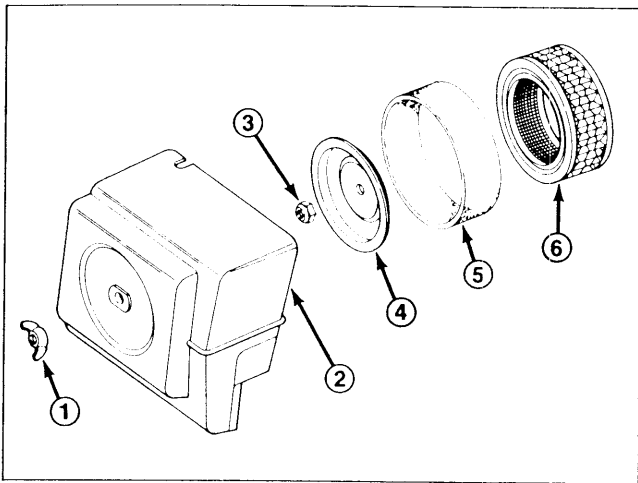

Figure 23
1. Remove wing nut and cover (Fig. 23).